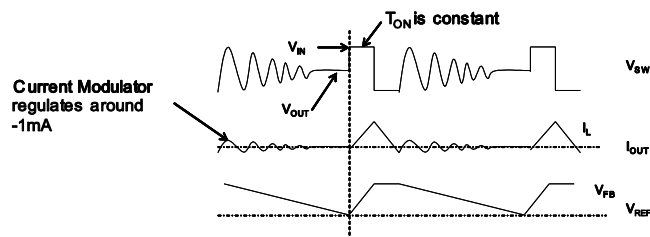

Figure 3: DCM Operation
DCM operation is shown in Figure 3. When V_{FB} is below V_{REF} , the HS-FET is turned on for a fixed interval, which is determined by the one-shot on timer. See Equation (1). When the HS-FET is turned off, the LS-FET is turned on until the inductor current reaches zero. In DCM operation, the V_{FB} does not reach V_{REF} when the inductor current approaches zero. The LS-FET driver turns into tri-state (high Z) when the inductor current reaches zero. A current modulator takes over the control of the LS-FET and limits the inductor current to less than -1mA. Hence, the output capacitors discharge slowly to GND through the LS-FET. As a result, the efficiency at light-load is improved greatly. The HS-FET is not turned on as frequently during a light-load condition as it is during a heavy-load condition (skip mode).